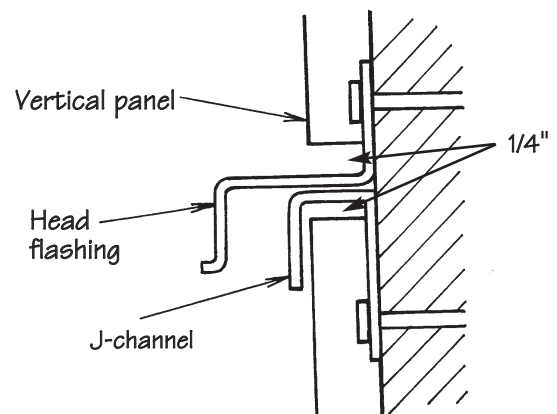

Figure 53.
- If it will take more than one course to span the height of the house, terminate the first course into an inverted J-channel (Fig. 53), allowing 1/4" for expansion. Install head flashing on top of the J-channel and begin the second course leaving 1/4" gap at the head flashing.